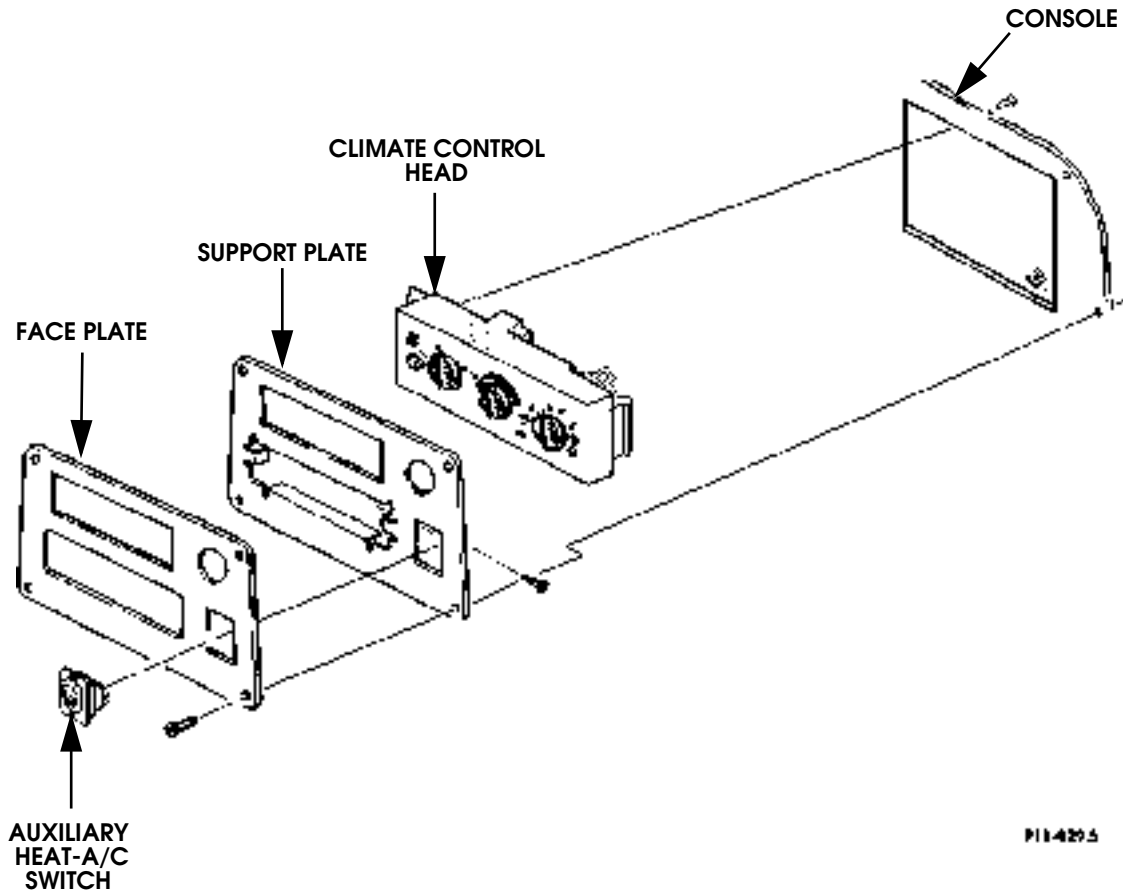

Figure 11-6: Climate Control Head Replacement
2. Remove screw attaching climate control head to support plate side bracket (Figure 11-6).